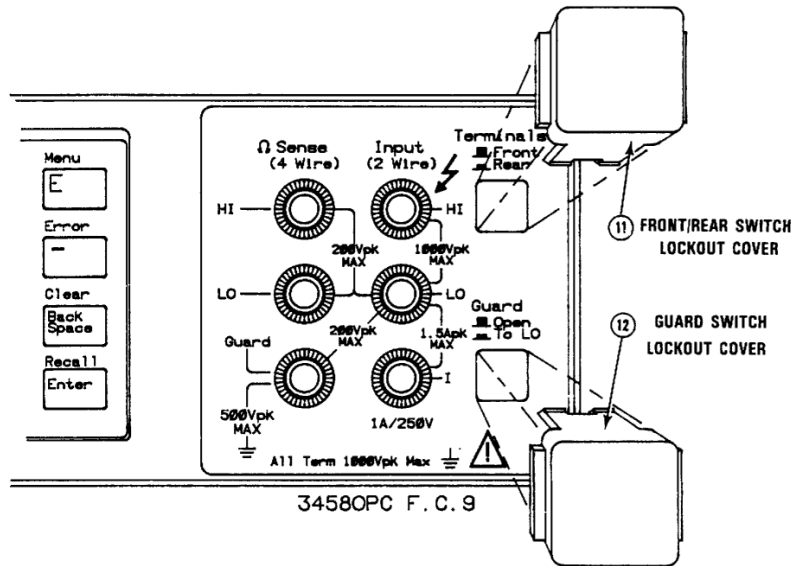

Figure C-9 Switch covers installation
- 1 Refer to Figure C-9. Turn the instrument so its front faces you.
- 3 Locate the little square covers that came in the switch lockout kit. as shown in Figure C-9.